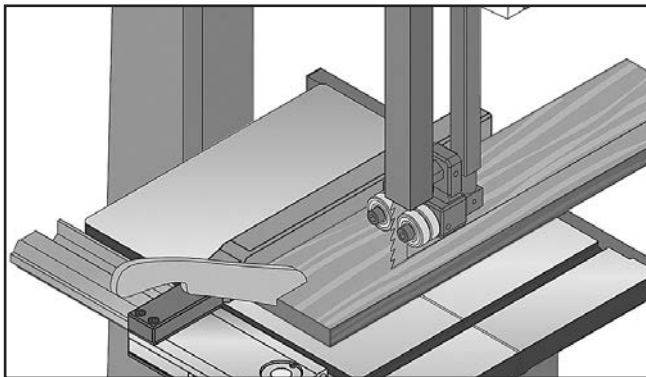

Figure 53. Example of typical ripping operation with a push stick.
3. After all safety precautions have been met, turn the bandsaw **ON**. Slowly feed the workpiece into the blade and continue with the cut until the blade is completely through the workpiece. **Figure 53** shows a typical ripping operation.